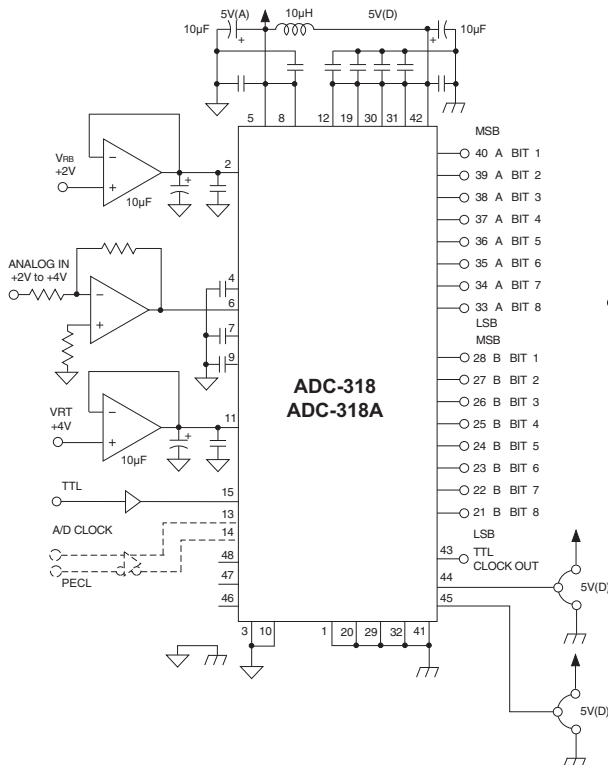

Figure 2-1: One Power Supply Operation (TTL, PECL)
6. A/D CLK input and RSET/RSET inputs are TTL or ECL, PECL (Positive ECL) compatible. Pins are provided individually. TTL or PECL is available with +5V single power applied. ECL is available with ±5V dual power applied. The connections of -DVs (pin 1) and DGND3 (pin 12) are different depending on the power supply mode used. Refer to Figures 2-1 and 2-2.